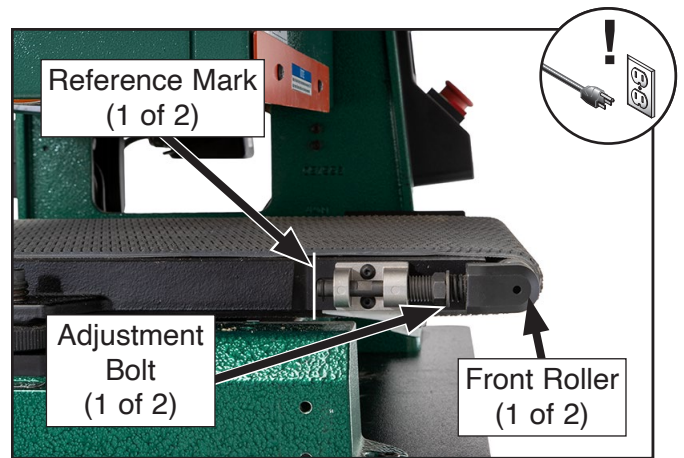

Figure 54. Location of adjustment bolt, reference mark, and front roller (left side shown).
4. Use pencil to make reference mark on each side of conveyor table where end of adjustment bolts are positioned (see **Figure 54**). These reference marks will provide a visual aid in keeping track of adjustments.
5. Rotate (2) adjustment bolts counterclockwise and slide front roller as far back as it will go (see **Figure 54**).